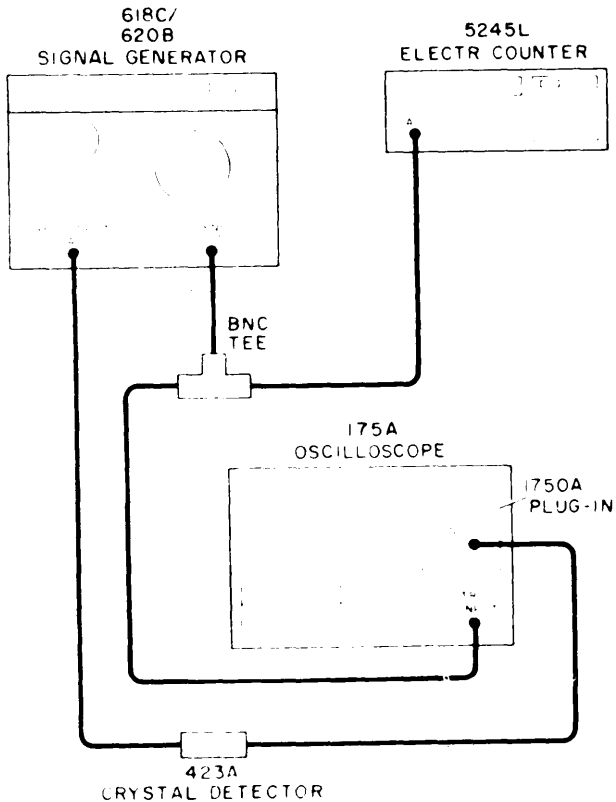

Figure 5-3. Setup for Testing Internal Pulse Modulation.
a. Connect Signal Generator in test setup shown in Figure 5-3.